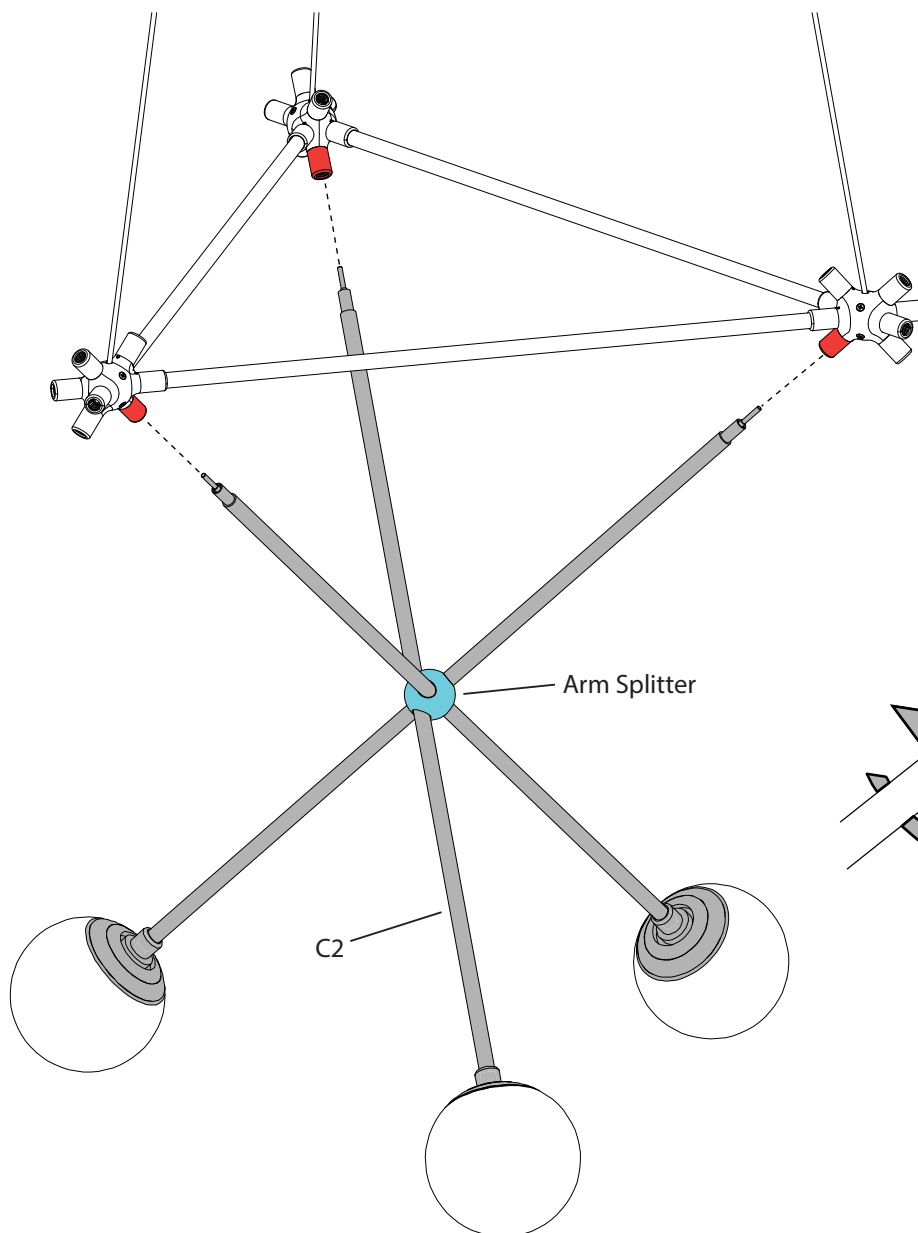

Fig. 5
- b. Slide those into the 'B' ports of the Connector until it reaches the end, then screw it in until tightened as shown in Fig. 5 & 6. This may require small adjustments to each arm until all are secure.